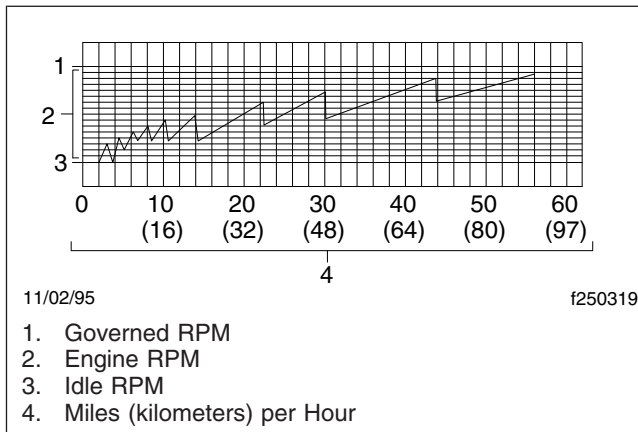

Fig. 7.8, Progressive Shift Pattern
3. It is seldom necessary to accelerate the engine to governed speed in the lower gears to get the vehicle moving, except in a high-power-demand situation such as starting on a grade. To conserve fuel, start off in low gear, and develop only the engine speed needed to get rolling. Then, increase engine speed gradually as upward gear shifting progresses. This technique will get the vehicle up to the desired cruising speed while minimizing noise emission and maximizing fuel economy. A progressive shift pattern is illustrated in **Fig. 7.8**.